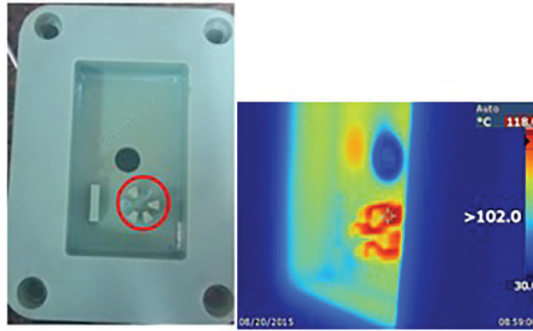

Fig. 4 - The towers tend to break off after 2 to 6 shots.
- The towers are heated and softened due to low thermal resistance, and tend to break during injection or ejection (Fig. 4).